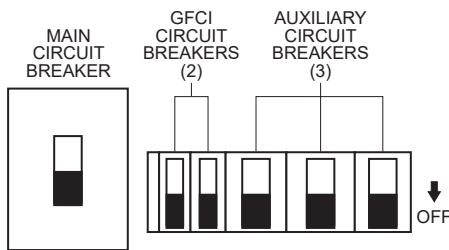

Figure 43. Main, Auxiliary, And GFCI Circuit Breakers (OFF)
1. Place the **main, auxiliary, and GFCI circuit breakers** (Figure 43) in the **OFF** position prior to starting the engine.